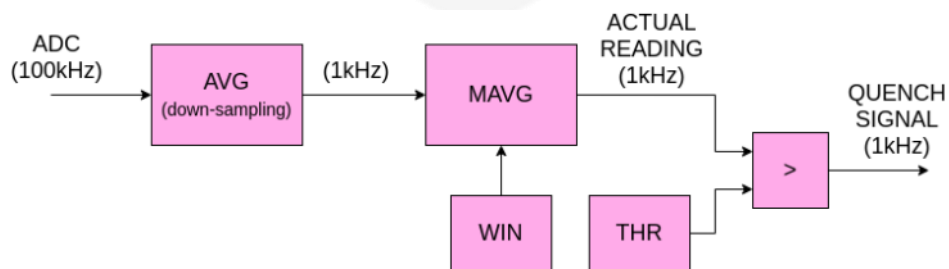

Figure 4: Signal processing block diagram
Figure 4 shows the digital elaboration of the acquired data. The analog readings from the four channels are converted into the digital domain by high-speed high-precision ADCs running at 100 kHz.
- verify that the “*Link LED*” on the RJ45 connector is turned on (**amber** for a 1 Gbps connection as shown in **Figure 4** or **green** for a 100 Mbps connection). The LED is turned off if the Ethernet cable is not connected or if the speed of connection is limited to 10 Mbps (in this last case the device is working correctly even if it is not recommended to use a slow connection since the data transfer rate is limited);